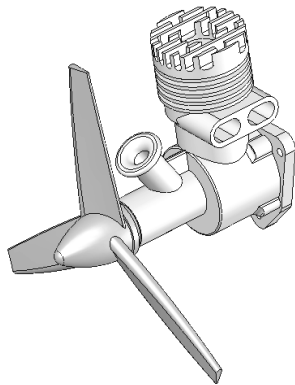

Figure 1-1 Internal Combustion Engine (Unexploded View)
*Mechanism* is a computer software tool that enables engineers to analyze and design mechanisms. *Mechanism* is a module of the *PTC Creo* product family developed by *Parametric Technology Corporation*. This software allows users to create virtual mechanisms that answer general questions in support of engineering design such as those described next. An internal combustion engine shown in Figures 1-1 and 1-2 is used to illustrate some of the typical questions in mechanism design.